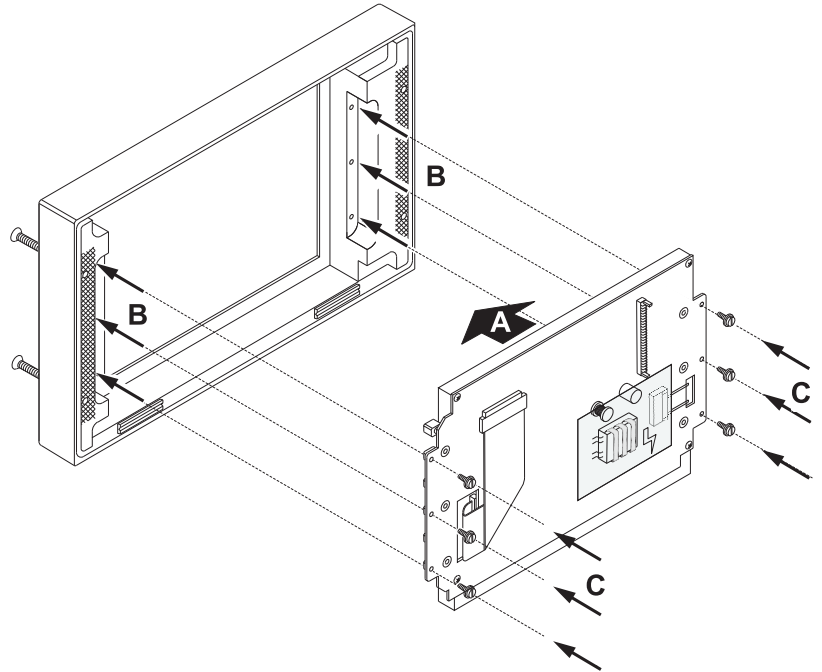

Fig. E 7-19: Placing and fastening the new display assy to the front panel
7. Place the new mounting unit (display assy, spare part no. 129691-VID, A) carefully into the notches of the front panel (B). Fasten it with the six screws (C). (Fig. E 7-19)